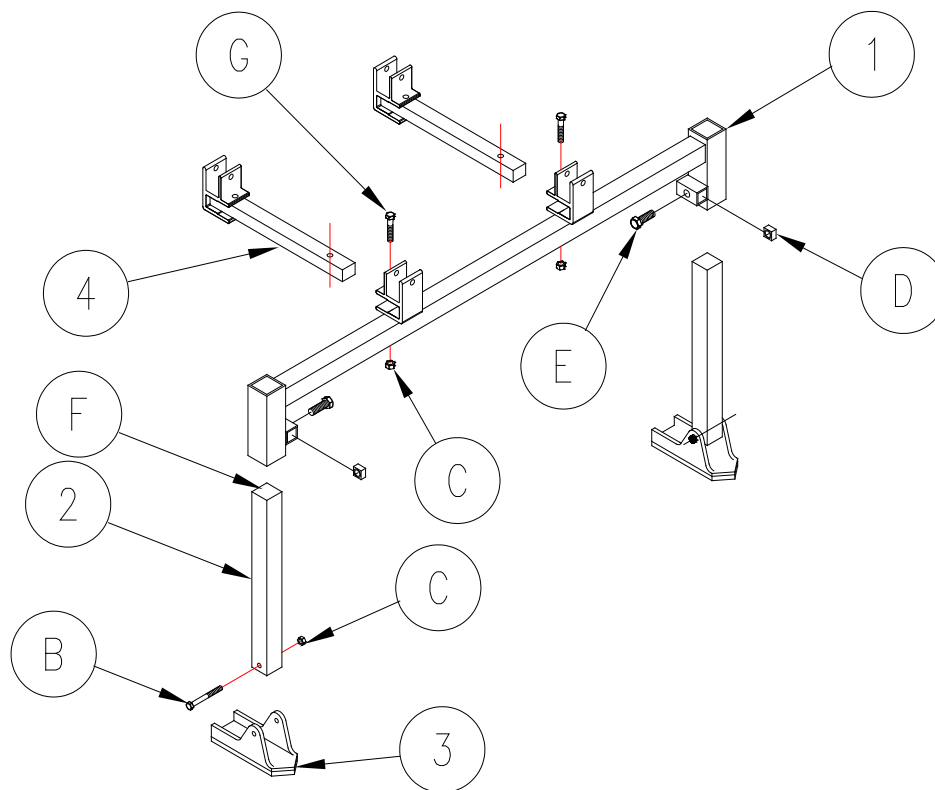

Figure 3-1.
1. Refer to Figure 3-1 and parts list.